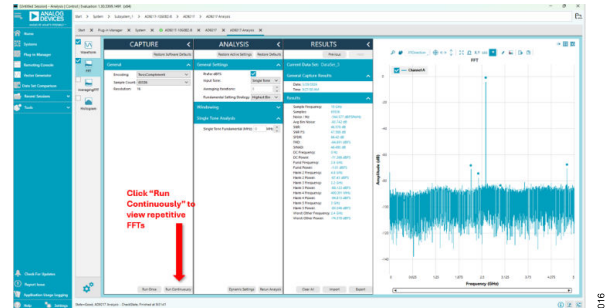

Figure 16. Run Continuously
17. Click **Run Continuously** to view repetitive FFTs (see Figure 16).